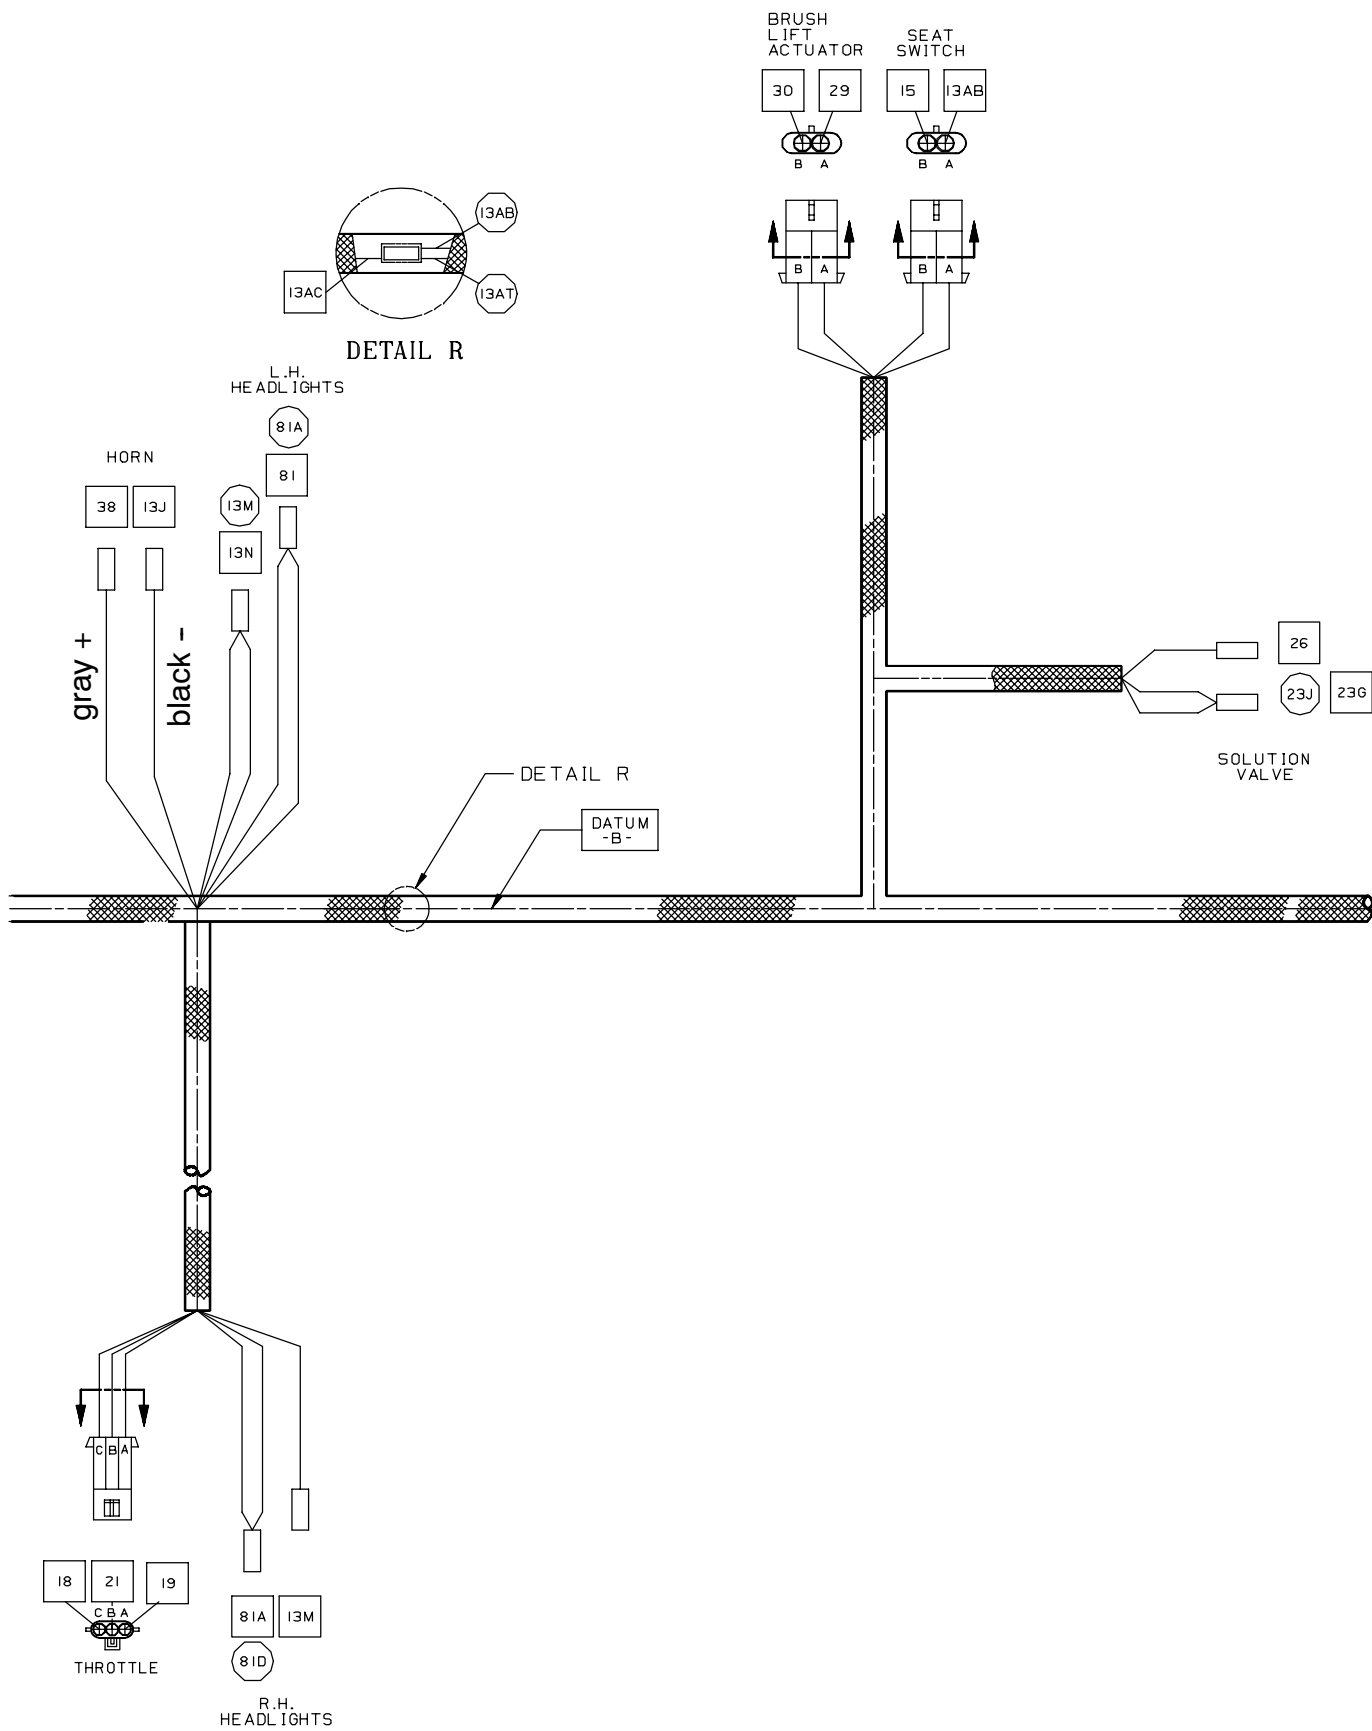

FIG. 3 - WIRE HARNESS GROUP
5. Attach 38A/GRY wire ring terminal to the positive (+) horn connection and the 13J/BLK wire ring terminal to the negative (-) horn connection. (Refer to FIG. 3)
6. Install the new horn (1) with the stainless steel screw (5) and lock washer (6).